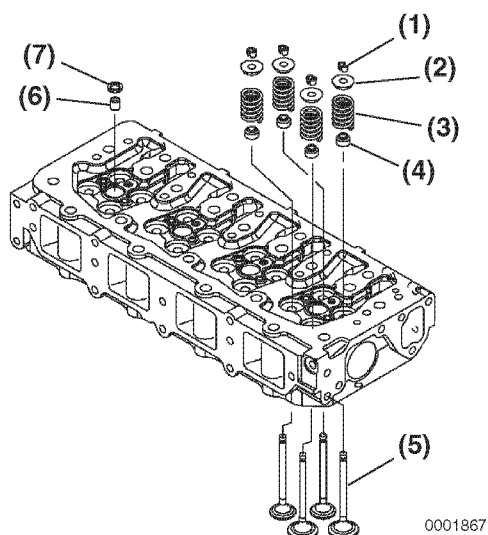

Figure 6-66
4. Place all the valves (**Figure 6-66, (5)**) in their proper location in the cylinder head.
5. Place the cylinder head on the workbench with the combustion side down. Install the valve spring (**Figure 6-66, (3)**) and spring retainer (**Figure 6-66, (2)**).
7. Insert the valve keepers (**Figure 6-66, (1)**) and slowly release the tension in the valve spring. Repeat the steps on all the remaining valves.